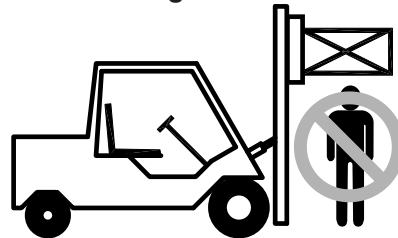

Figure 2-2
- Never allow anyone under a load or under the carriage. (Figure 2-2)